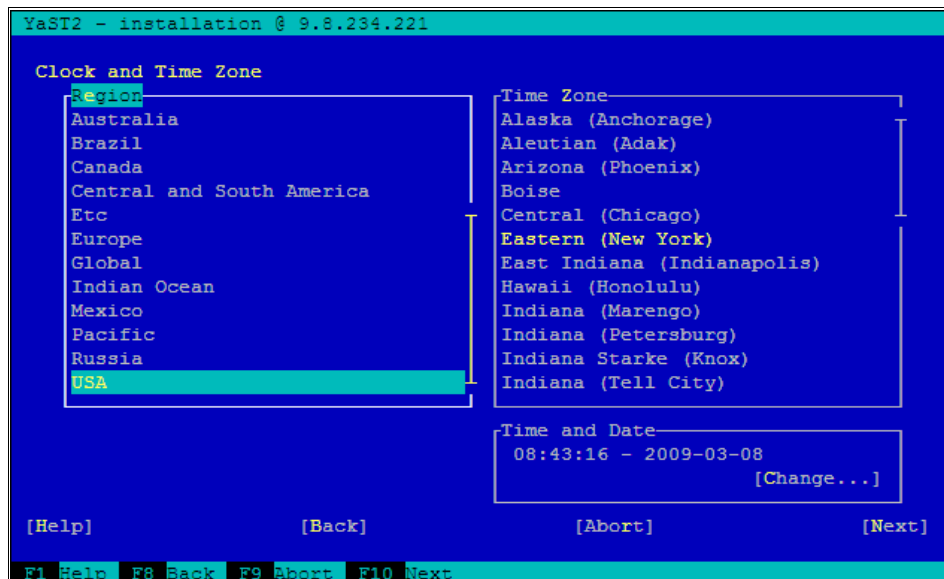

Figure 9-19 Clock and Time Zone
13. Configure your clock and time zone information, as shown in Figure 9-19 on page 381.